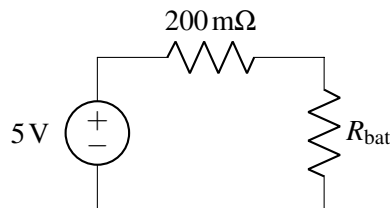

Figure 2: Model of wall plug, wire, and battery.
- The battery has internal circuitry that prevents it from getting overcharged (and possibly exploding!). We will model the battery and its internal circuitry as a resistor R_{bat} . We now wish to charge the battery by plugging it into a wall plug. The wall plug can be modeled as a 5 V voltage source and 200m Ω resistor, as pictured in Figure 2. What is the power dissipated across R_{bat} for $R_{\text{bat}} = 1\ \Omega$ (i.e. how much power is being supplied to the phone battery as it is charging) and how long will the battery take to charge?